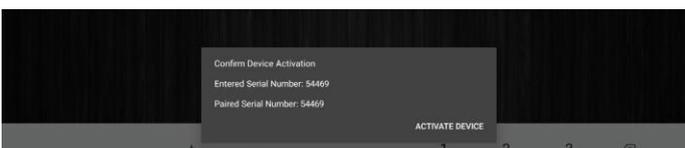

Figure 64
6. Finally, confirm the entered and paired serial numbers match and click Activate Device (Figure 64).